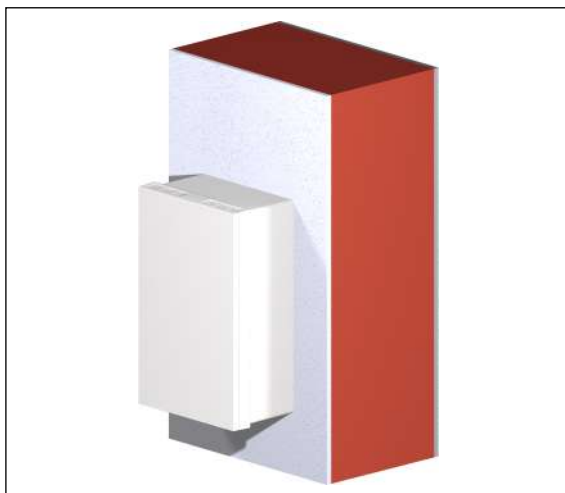

Fig. 1: Surface-mount installation
- Surface-mount installation (see Fig. 1)